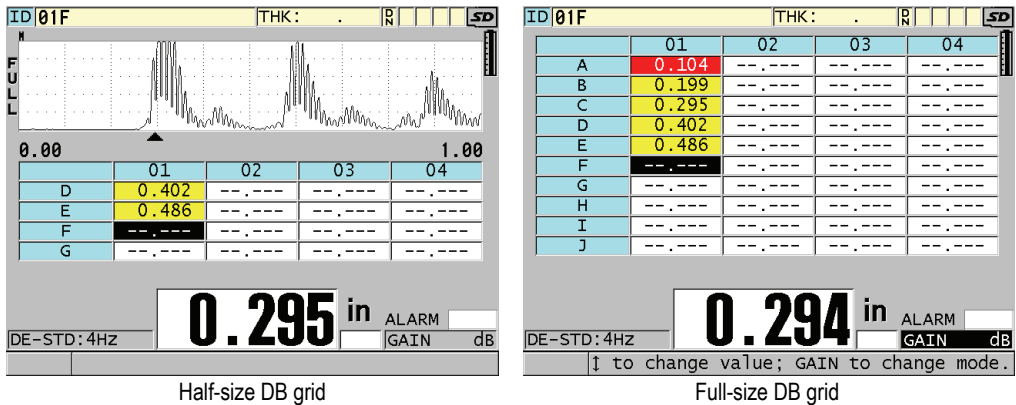

Figure 10-10 Example of half-size and full-size DB grids
5. Set **GRID SIZE** to one of the desired database grid size options (see Figure 10-10 on page 141):